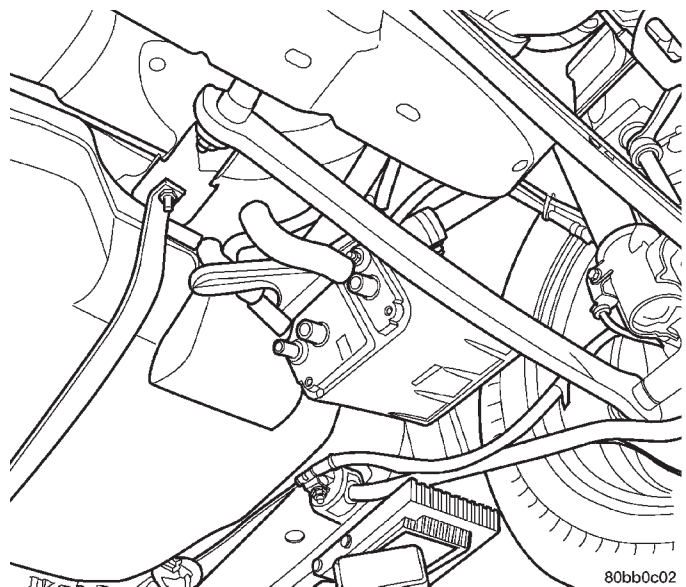

Fig. 8 EVAP Bracket and Bracket
- (4) Remove 1 nuts from the bracket of the EVAP canister (Fig. 8).
- (1) Install EVAP canister to Bracket (Fig. 8).
- (2) Install 2 nuts to EVAP canister and bracket and tighten nuts to 6.7 N·m (60 in. lbs.).
- (3) Connect hoses.
- (4) Install EVAP canister and bracket to vehicle and tighten nut 22.4 N·m (250 in. lbs.).
- (5) Lower vehicle.
- (6) Connect negative battery cable.